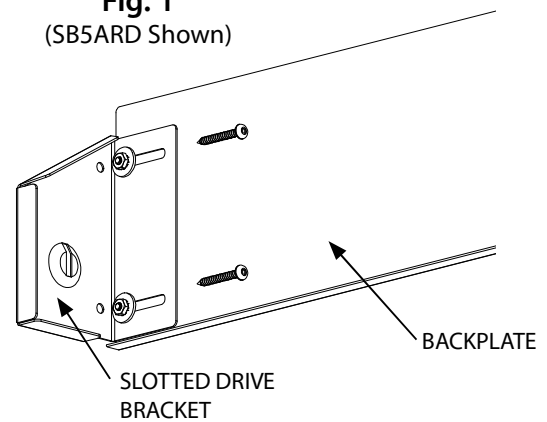

Fig. 2
C. (Fig. 2) Place the Holed Idler Bracket against mounting surface. Slide the 5/8" side lip of the back plate over against the Holed Idler Bracket. Place screws through the lip on the back plate, through the mounting holes on the Holed Idler Bracket. The bracket will be between the mounting surface and the lip on the back plate.